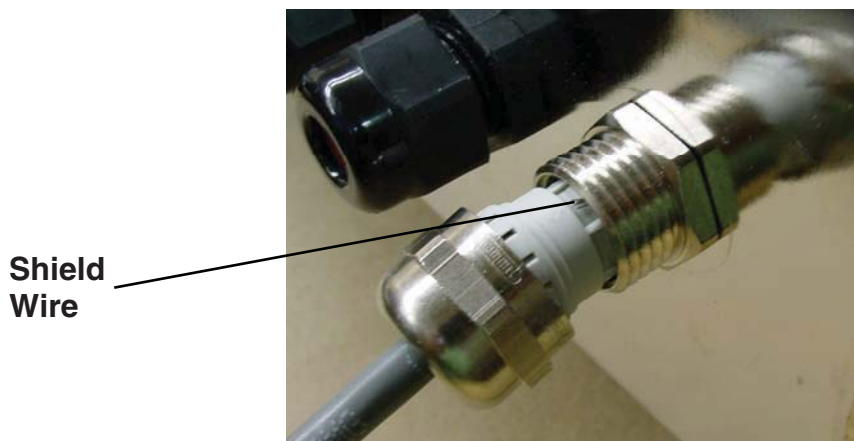

Figure No. 9
14. The shield wire is secured when tightening the gland connector nut. See Figure No. 9.